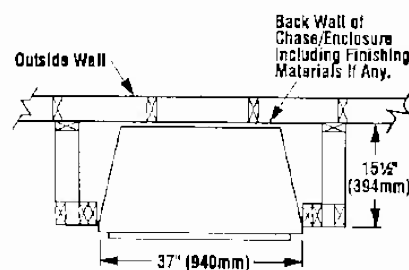

Figure 4
Step 1. Frame VF4 appliance enclosures as illustrated in Figures 4, 5 and 6.
Note: Framing dimensions in Figures 4 - 6 are calculated for a nailing flange depth of 1/2" (13 mm).